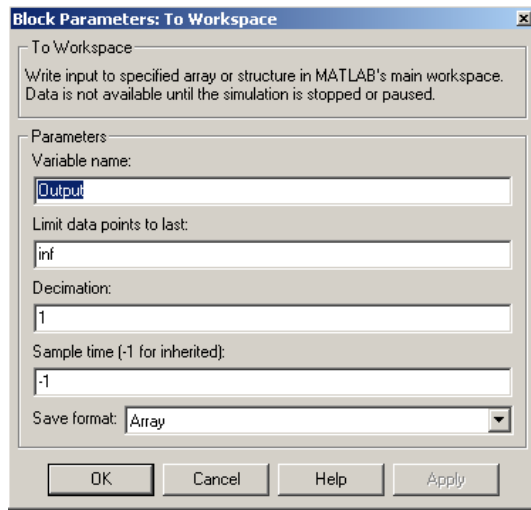

Figure 8. Output to Workspace Block Setup
2.2.4 Output To Workspace Block Parameter Settings. The “To Workspace” blocks will each create an array in the Matlab workspace with the name that you specify in the appropriate parameter block. This allows you to plot using Matlab’s extensive plotting capabilities (Simulink’s plotting capabilities are somewhat limited) and to use Matlab routines to analyze and manipulate the data resulting from the simulation. Double click on one of the “To Workspace” blocks to open the parameter window as in Figure 8, and give it an appropriate name, such as Output or Time. The Save format needs to be set to Array. Use